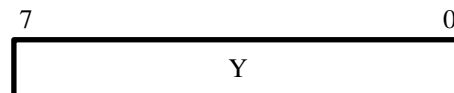

Figure 21. YCrCb 4:0:0 Color Space.
- YCrCb 4:0:0 — This format only as the Y component as shown in Figure 21. This format is equivalent to